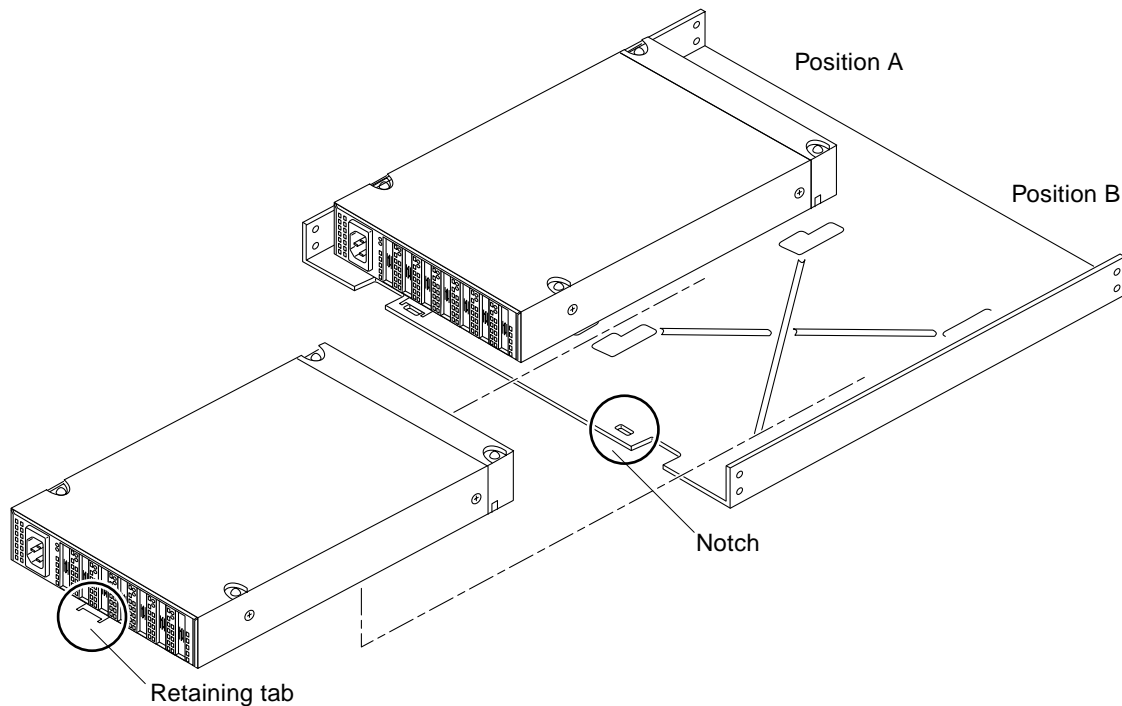

FIGURE 2-2 Installing the Hub on a Mounting Tray
2. From the rear of the tray, slide the hub mounting bracket into the slots in the mounting tray (FIGURE 2-2)